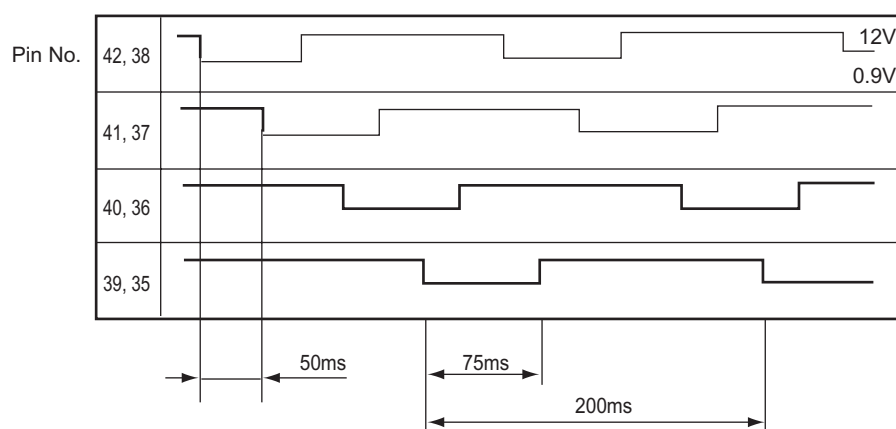

Fig. 11-2
- Fig. 11-2 shows logic waveform when expansion valve is operating.